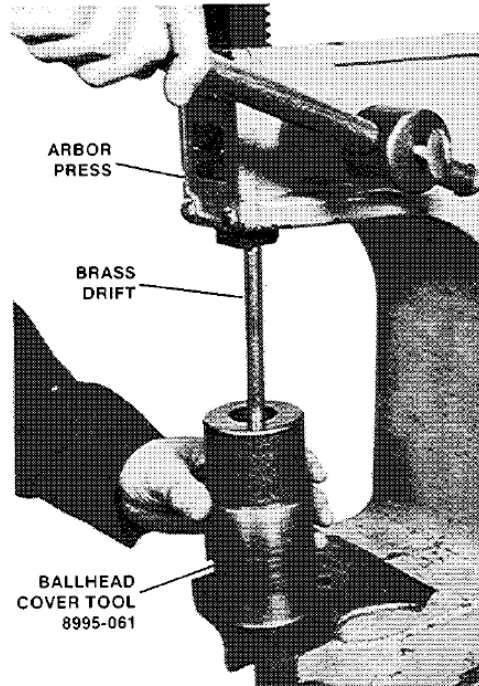

Figure 5-6. Removing Ballhead Cover
8. Use an 1/8 inch Allen wrench to hold the pilot valve plunger while removing nut (119). Remove race (118), bearing (117), race (116).
9. Use ballhead cover tool 8995-061, an arbor press, and a brass drift to press the ballhead from the ballhead cover (120) (Figure 5-6).